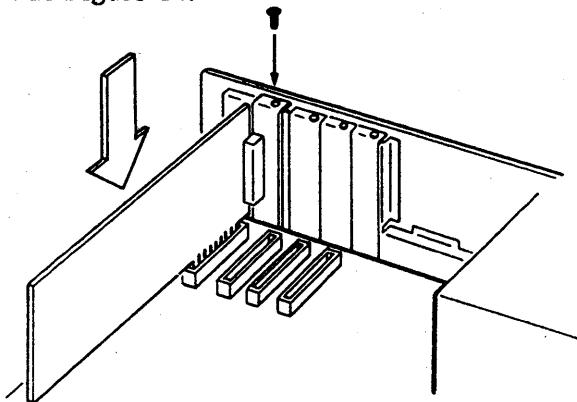

Figure 14: Installing the Tape Controller Card
5. Install the tape controller card into your expansion slot as shown in Figure 14.